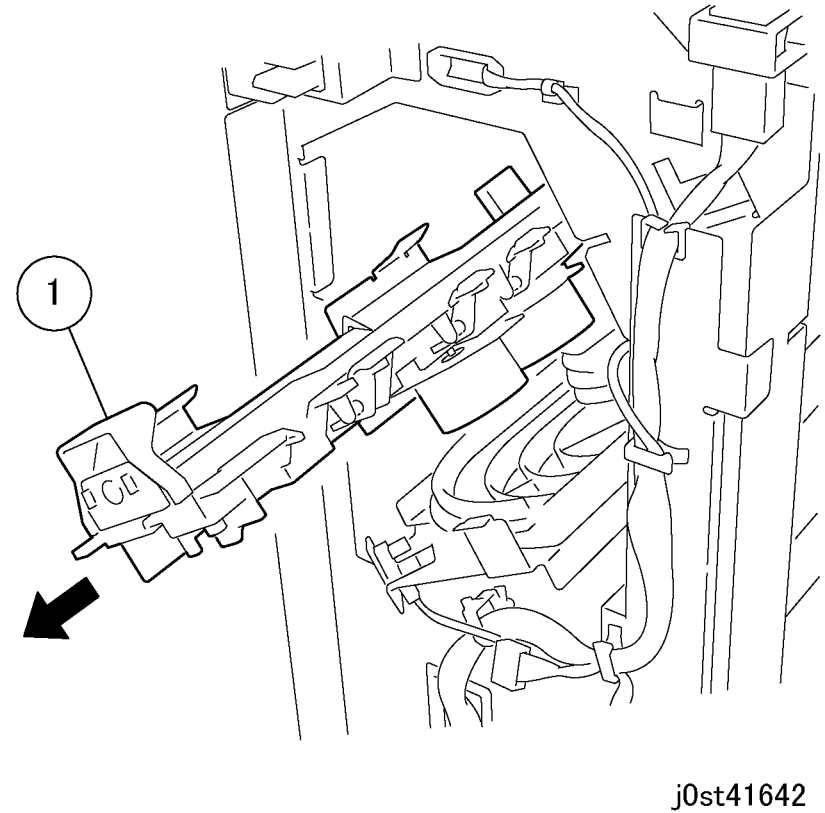

Figure 3 Removing the Compiler Assembly (j0st41642)
5. Remove the Compiler Assembly (item 1) (Figure 3).